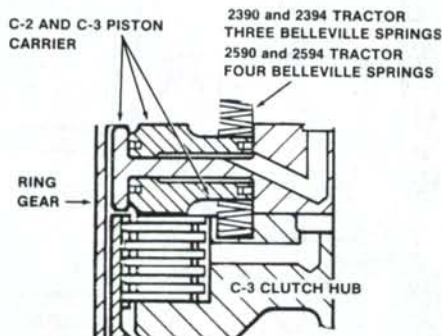

Fig. 167—Cross section showing correct installation position of C-3 clutch Belleville springs. Refer to text.
Install Belleville springs (62—Fig. 165) into recessed area of C-3 clutch hub (68). On Model 2390 and 2394 tractors, put first spring with inside diameter lower than outside diameter. On Model 2590 and 2594 tractors, put first spring with inside diameter higher than outside diameter. Alternate remaining springs as shown in Fig. 167.
Install Belleville springs (53) into piston carrier recesses. Install first spring with inside diameter higher than outside diameter. Alternate remaining springs as shown in Fig. 167.